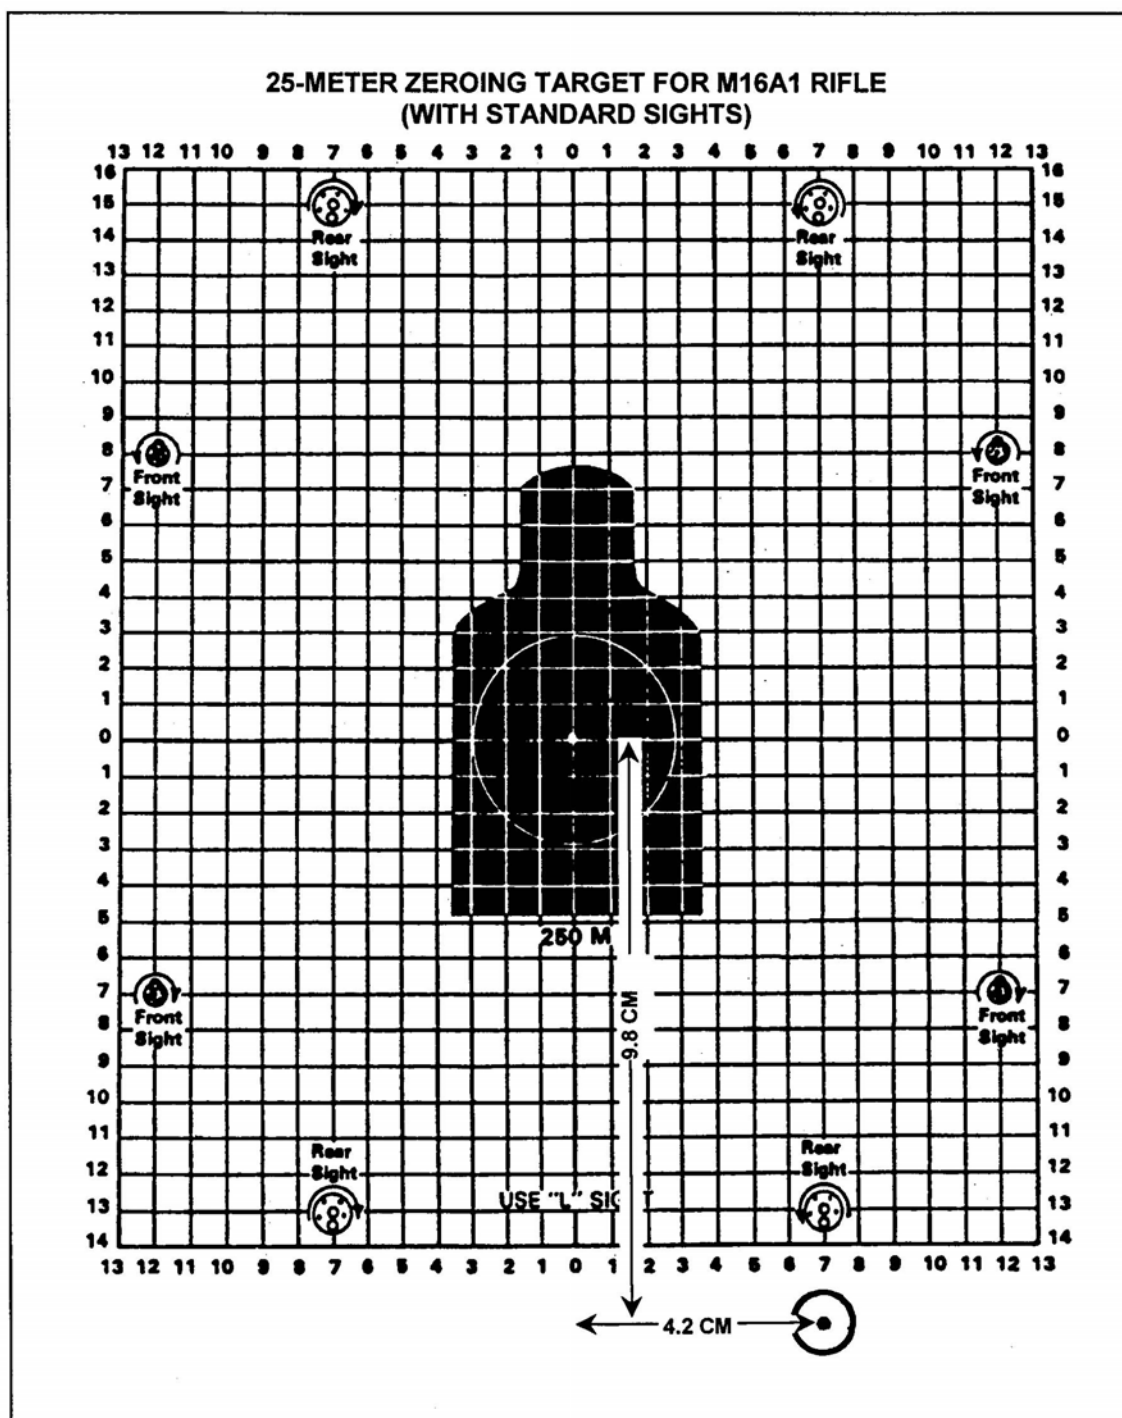

Figure 2. 25-Meter Zeroing Target for M16A1 Rifle
- c. Adjust the sight reticle using the azimuth and elevation control knobs to move the center of the shot group to a point 9.8 centimeters or 3 7/8 inches below and 4.2 centimeters or 1 5/8 inches to the right of the target aiming point (Figures 2 and 3).